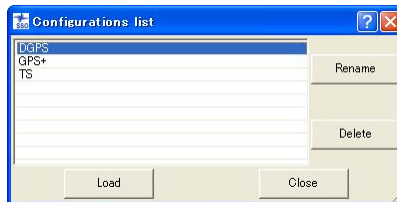

Figure 2-9. Configurations List
- Clicking the List configuration button displays the *Configuration list* dialog box (Figure 2-9). The default configurations differ in coordinate systems and precisions for Points, GPS Obs, TS Obs, DL Obs, and Loop Closure.